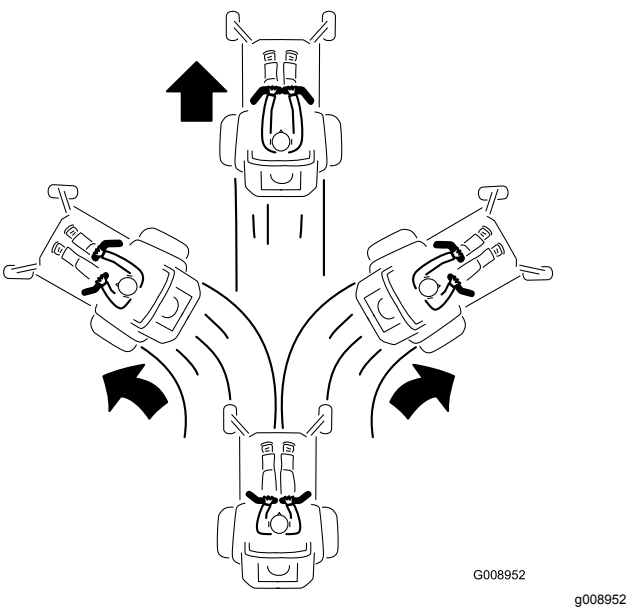

Figure 15
- 2. To go forward, slowly push the motion-control levers forward (Figure 15).
To go straight, apply equal pressure to both motion-control levers (Figure 15).
To turn, release pressure on the motion-control lever toward the direction you want to turn (Figure 15).